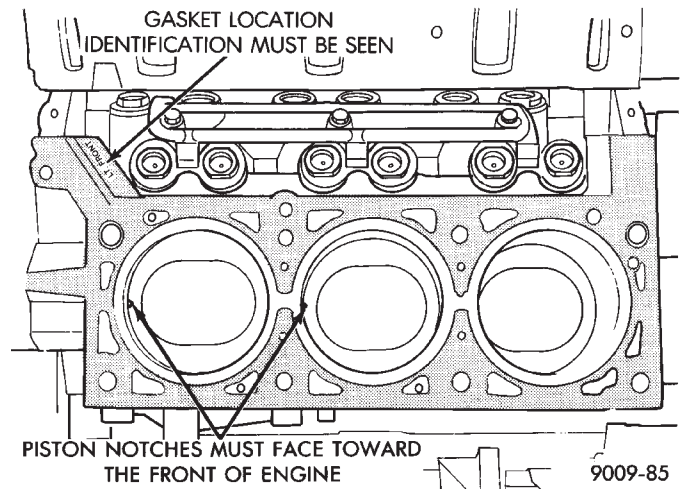

Fig. 15 Piston I.D. Notches
(7) The notch or groove on top of piston must be pointing toward front of engine (Fig. 15).
(8) Install rod caps. Install nuts on cleaned and oiled rod bolts and tighten nuts to 54 N•m (40 ft. lb.) Plus 1/4 turn.